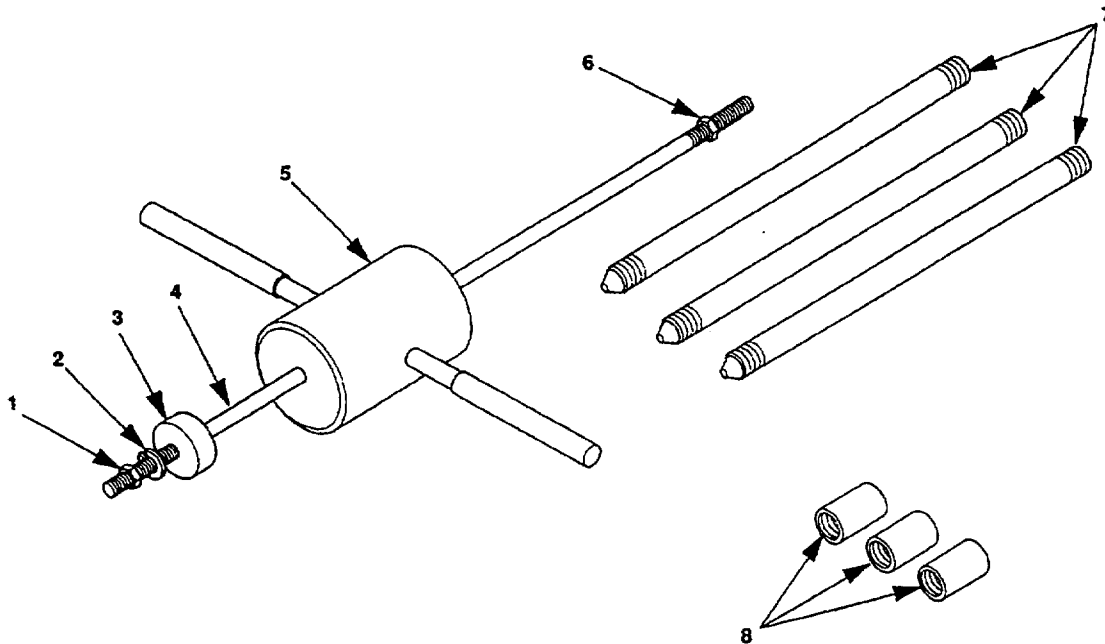

Figure 2-4. Ground Rod, Grounding Strap, and Slide Hammer.
- a. Remove ground rod, grounding strap, and slide hammer (figure 2-4) from accessory box. Perform assembly steps (1) through (3).
- (1) Remove nut (6, figure 2-4) from end of ground rod (4) and retain.
- (2) Remove hammer (5) from rod and thread nut (6) on end of rod to prevent loss.
- (3) Store hammer and rod with assembled parts in accessory box.